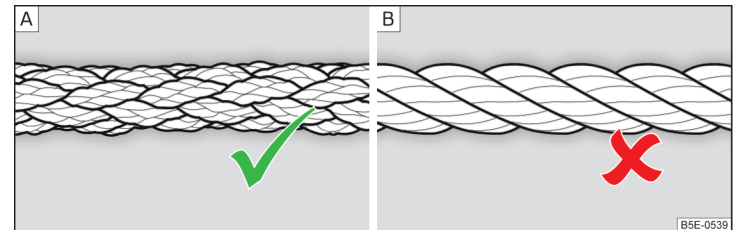

Fig. 207 Braided tow ropes/spiral tow rope
A braided tow rope must be used for towing » Fig. 207- **A**.
- Spiral tow ropes must not be used for towing » Fig. 207- [B], the towing eye may unscrew out of the vehicle - risk of accident.